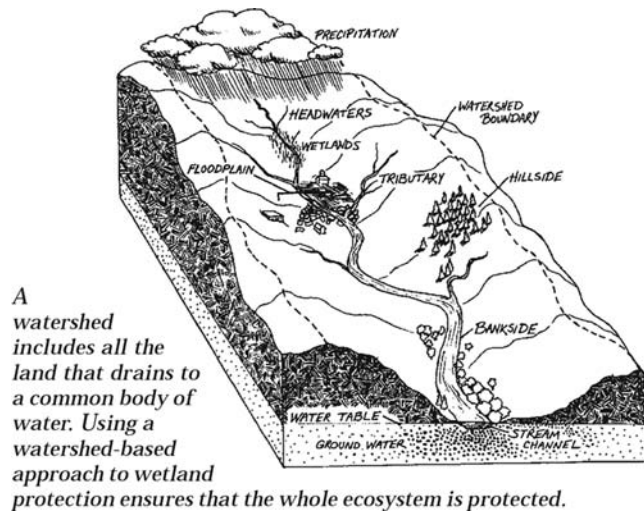

Figure 9.3
Nonpoint source (NPS) runoff has sources harder to precisely identify, thus the term non-point. Because of this uncertainty, NPS pollution is harder to control than point source. Just looking at a diagram of a watershed (Figure 9.3) allows you to see the many possible points of origin of a pollutant.
- Think of *watershed*. A watershed is a drainage basin encompassing an area in which rain and other precipitation drains into a particular river or river system (Figure 9.3). It also includes the waters associated with the river – wetlands, aquifers, and estuaries. Basically, all precipitation falling in a watershed flows into one water body. This means that polluted runoff can influence waters distant from its origin.